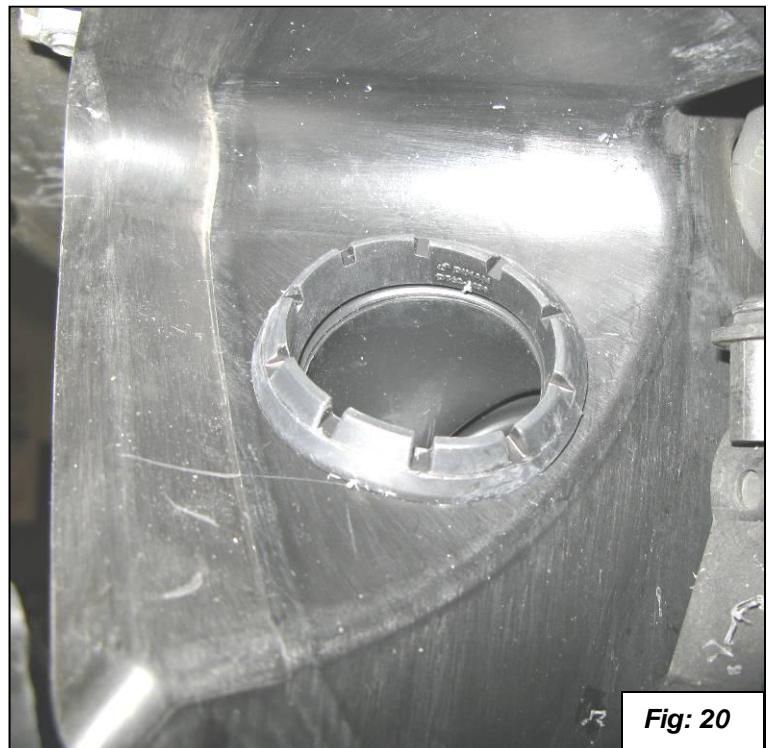

Fig: 20
19. Make sure the hose ends are fully engaged in the holes. See figure 20.